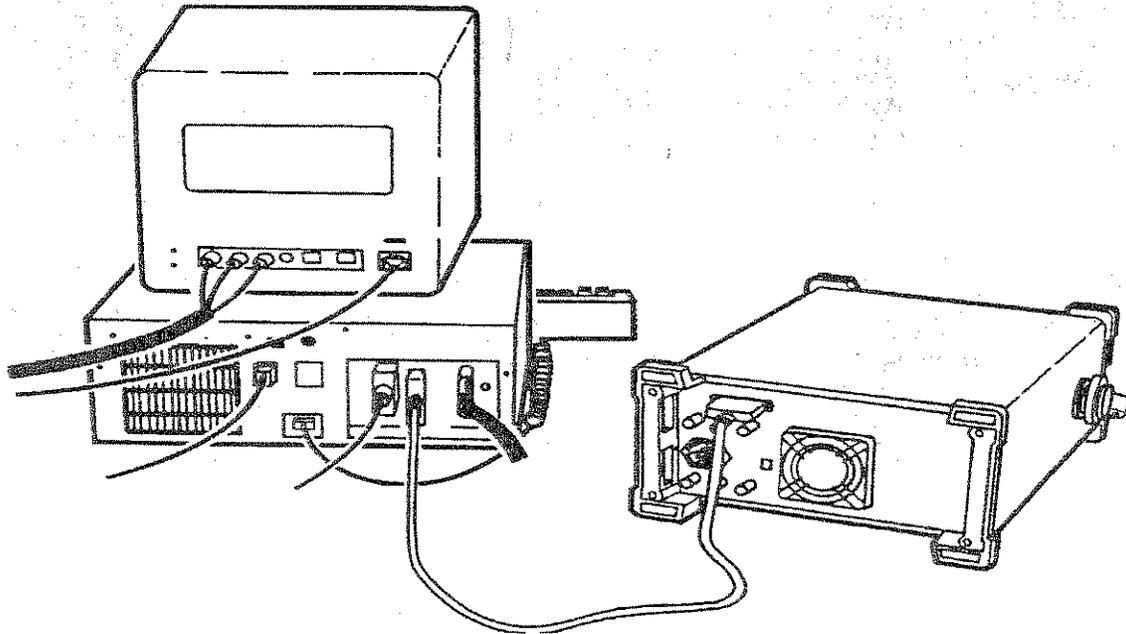

Figure 1-4
1. Connect the analyzer to the computer, using the RS-232 cable. Figure 1-4 shows an HP Vectra PC connected to the analyzer.